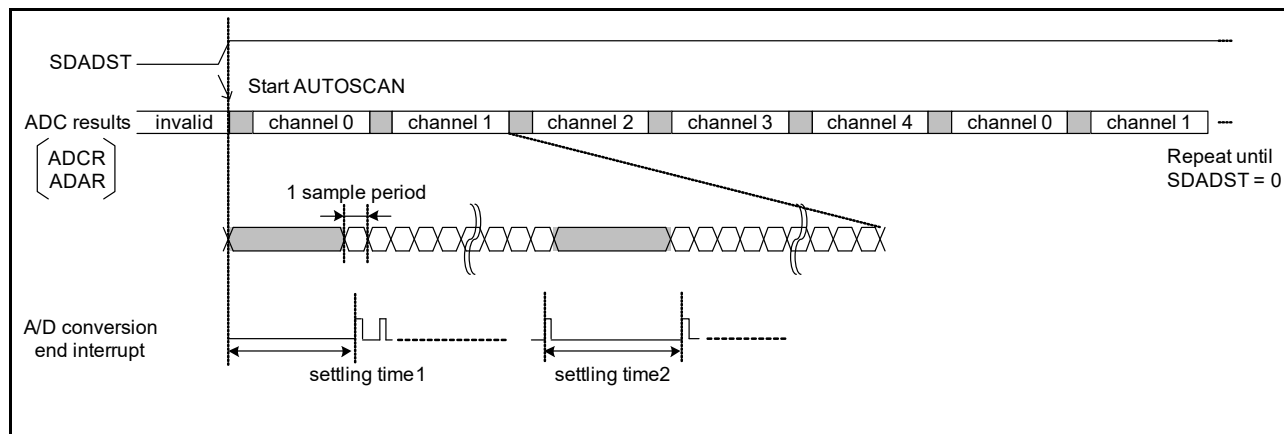

Figure 33.12 AUTOSCAN sequence
- Settling time 1 — The time from ADC2.SDADST bit rising to A/D conversion end interrupt. See settling time 1 in Figure 33.12.
- Settling time 2 — The time from the last A/D conversion end interrupt before channel switching to the first A/D conversion end interrupt after channel switching. See settling time 2 in Figure 33.12.